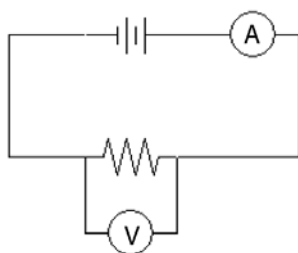

Figure 3.12: Schematic for Step 1
1. **Construct the circuit shown in Fig. 3.12.** Refer to the Suggestions section above. Choose a resistor that has a resistance of at least 1000Ω , so that we can neglect the $\sim 6 \Omega$ internal resistance of the ammeter. Choose a voltage setting on the power supply, and read off the voltage and current from the meters. Then use Ohm’s Law (Eq. 3.1) to experimentally⁵ determine the resistance. Record your measurements in Data Table 1 in your Excel spreadsheet. Refer to Eq. A.2 (included at the end of this write-up) to calculate the uncertainty in your experimentally determined resistance. Compare your measured value (Ohm’s Law value) with the nominal value given by the color code (see Question 1).